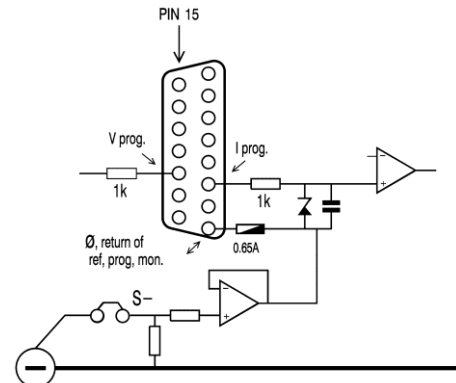

fig 4 - 4
- For the other units, the inputs have a protection circuit formed by a series resistor and a parallel zener (see fig. 4 - 4). The capacitor limits the speed to a safe value. **Note that the analog inputs (and outputs) are not floating, but the common is connected to the 'minus' DC output terminal.** Wrong connection of \emptyset can cause earth loops which can trip the fuse. After removing the fault, the fuse will reset (PTC-fuse). For isolated programming see next paragraph.